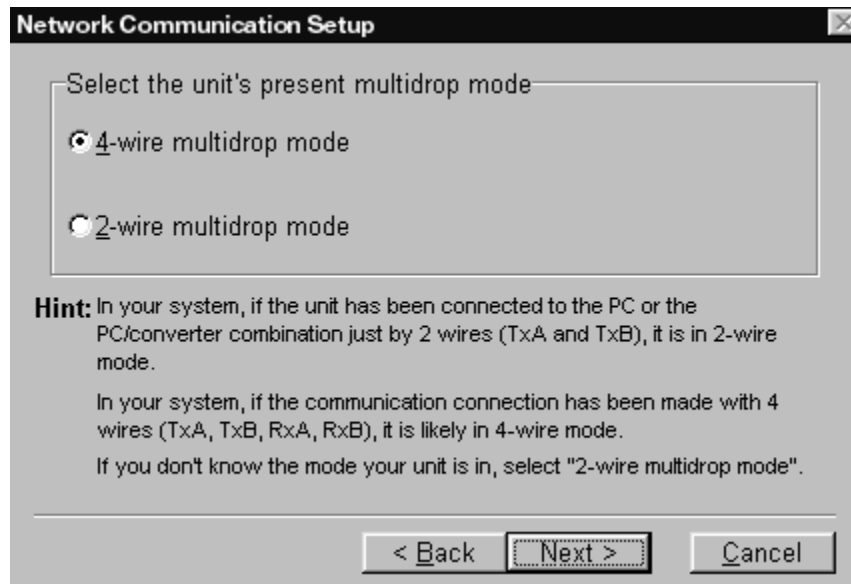

Figure 3-7: Multidrop Mode Screen
- For Multidrop installations, select Multidrop and click the Next button. A screen similar to Figure 3-7 displays.